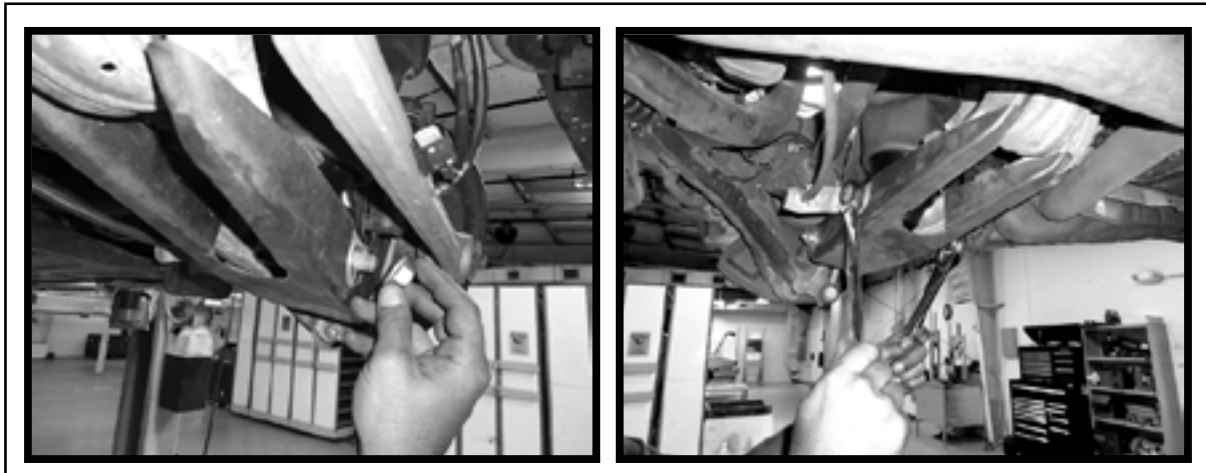

FIGURE 10-37
21.0 INSTALL, AND TIGHTEN MOUNTING BOLT. (FIGURE 10-37)